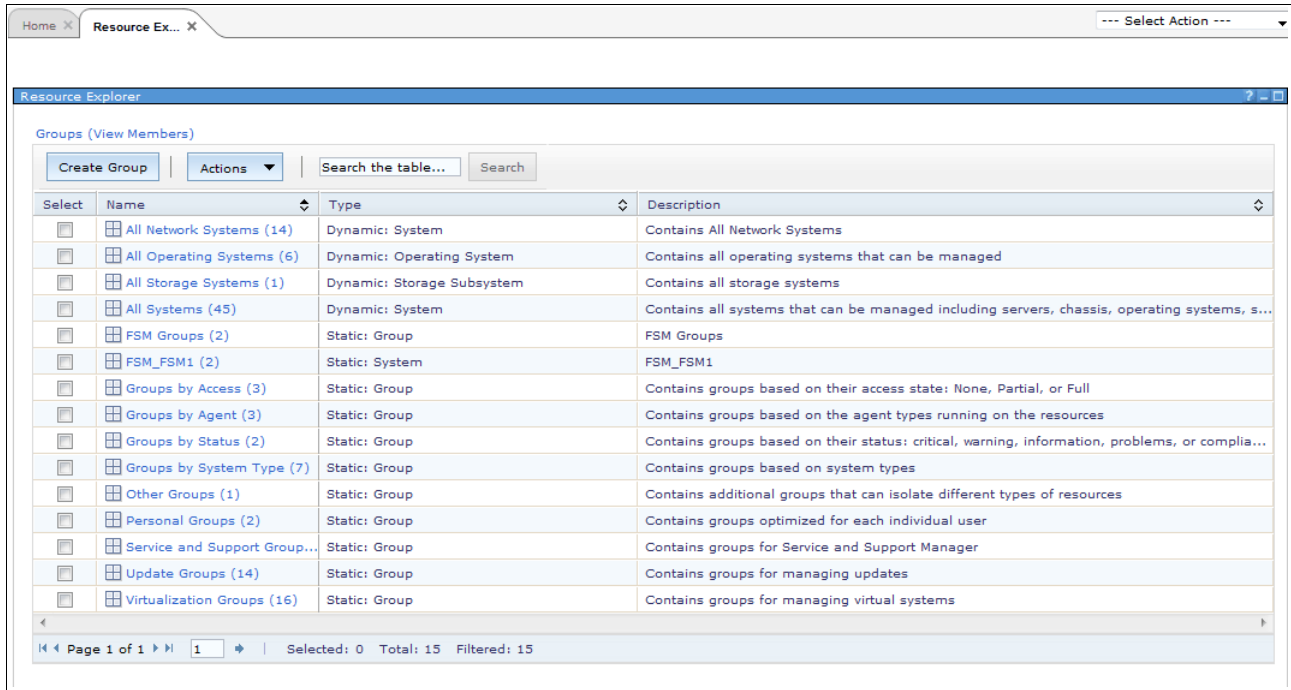

Figure 3-91 Resource Explorer
2. Resource Explorer shows a snapshot of all resources in the IBM Flex System Manager managed by the IBM Flex System Manager, as shown in Figure 3-91.